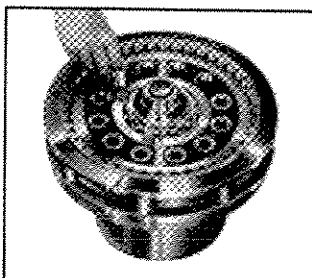

Fig. 13
5. The top cycloid disc (2-04) on the slow speed side can be easily lifted out with both hands (Fig. 13).
7. Insert top disc in such a way that the mark is 180° opposed to the marking of the bottom disc (Fig. 13).